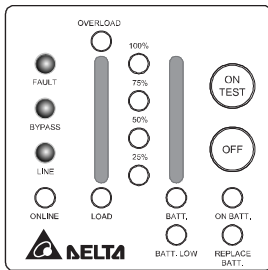

Figure 6-1 (Fault)
2. One or more additional load/battery level LED indicators will illuminate to provide a diagnostic aid to the operator, described as below (Show as Figure. 6-1):